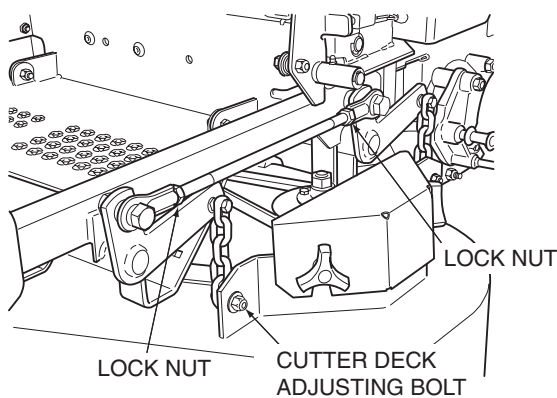

Figure 6-4. Cutter Deck Adjustment
1. On the front LH side of the cutter deck locate the cutter deck adjusting bolt. (See Figure 6-4)
1. Loosen the lock nuts on both adjusting rods. (See Figure 6-4)